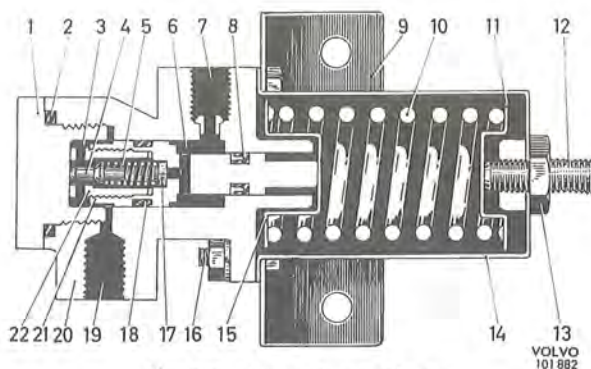
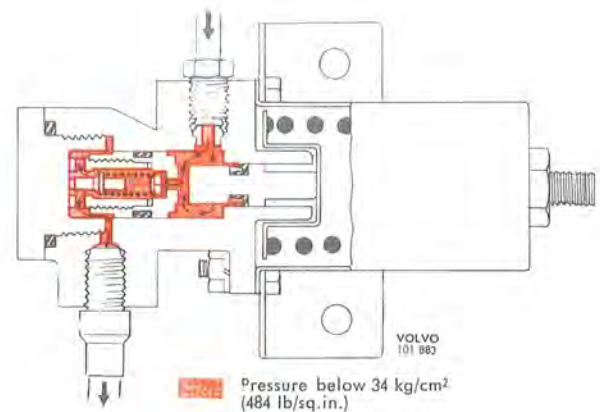

Fig. 5-41. Brake valve, construction
Fig. 5-42. Brake application
A brake valve is connected to each of the rear wheel brake lines, see Fig. 5-6. When the ingoing brake pressure exceeds 34 kg/cm^2 (484 lb/sq.in.) a reduction takes place in the valve. The more powerful the pedal pressure, the greater will be the reduction and thereby the larger the difference between the hydraulic pressure in the front wheel and rear wheel cylinders. This results in a suitable distribution of braking force between both pairs of wheels. The construction of the brake valve is shown in Fig. 5-41 and its function is the following.
When the footbrakes are applied, the pressure from the master cylinder is transmitted via the connection (7, Fig. 5-41). The pressure then proceeds through the cylinder (6), the counterbore, past the valves (17) and (4) to cylinder (3) and then on through connection (19) to the rear wheel cylinders, see Fig. 5-42. The hydraulic pressure per unit surface is equal on the different parts of the piston (21), but since its pressure surface is larger in cylinder (3) than in cylinder (6), the force developed will move the piston to the right of the figure. However, this is counteracted by the pressure from the springs (10).
in cylinder (6) moves the piston to the left so that the valve rod comes up against its stop and opens the valve this causing the pressure in cylinder (3) to increase. Due to the larger pressure surface in this cylinder, the piston is moved to the right again and the valve closes. In this way, the piston assumes a position of balance and the outgoing pressure from the brake valve will be lower than the ingoing pressure, see Fig. 5-42. The difference in these pressures is determined by the different areas and spring tension.
When the brake pedal is released, the pressure in the cylinder (6) falls. The piston (21) is moved to the right by spring (10). When the pressure on the right-hand side of the valve (4) falls so much that the hydraulic pressure on the left-hand side enables the valves to be actuated, the connection between both the cylinders is opened again. As the pressure falls, spring (10) presses the left piston back to its original position where the valve is held in the open position by mechanical means, see Fig. 5-41. The equalizing valve (17) is fitted with control channels which ensure an even flow of pressure through the valve.